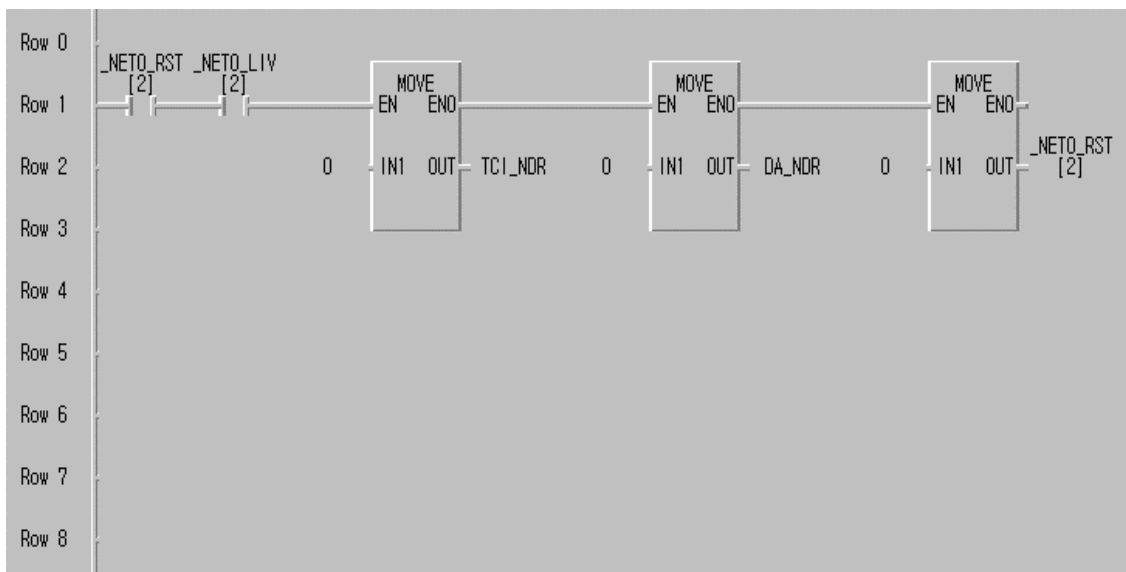

Fig. 6.6.6(B) Restart program when power failure is recovered
In Fig. 6.6.6(B), serial connection is made between `_NET0_RST[2]` and `_NET0_LIV[2]` flag to monitor other station when other station is recovered after power failure. At this time, each NDR output of initialization *function block* is cleared to perform initialization program of Fig. 6.6.6(A) again. After using `_NET0_RST[2]` flag, user should clear this flag as Fig. 6.6.6(B) to perform re-initialization only once and to reuse it for next power failure recovery, because this flag maintains final value until user clears it.